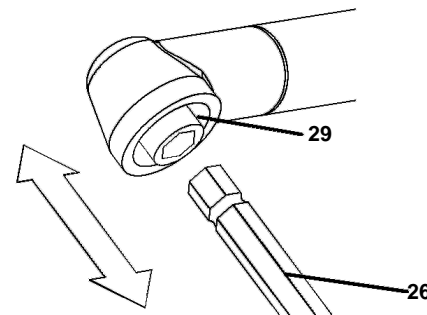

Fig. 17: Changing the tool, WAS
The tools (26) can be simply fit on and removed. (see Fig. 17:)